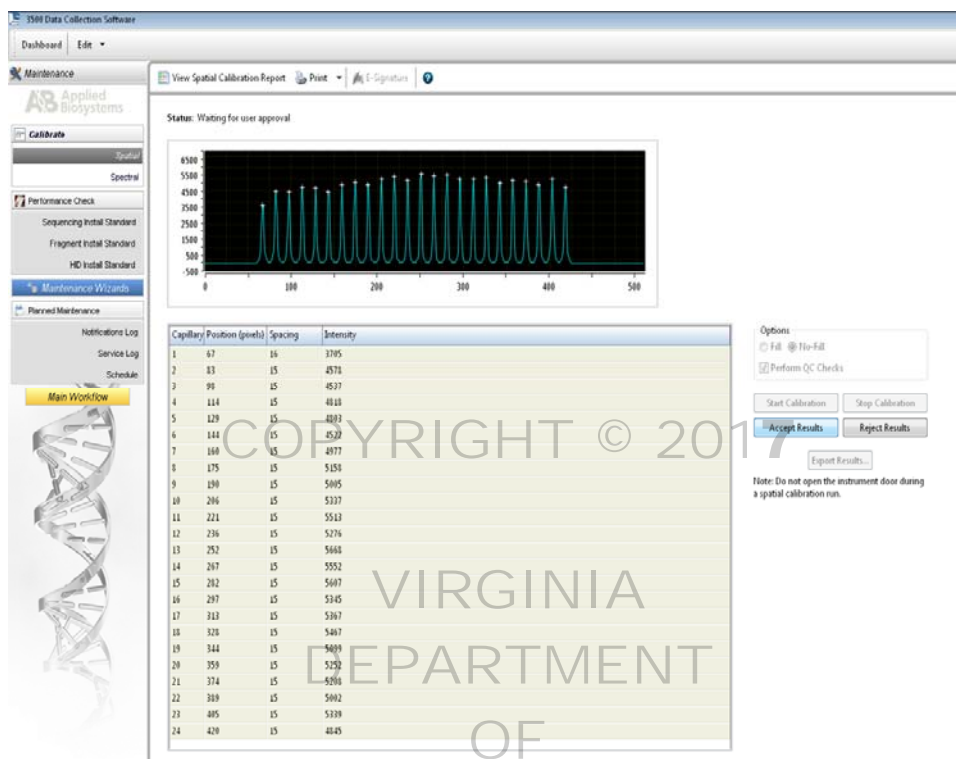

Figure 2. An example of an acceptable spatial calibration profile.
- 8.8 If the results meet the above criteria, click Accept Results. An example of a successful spatial profile is seen in Figure 2.